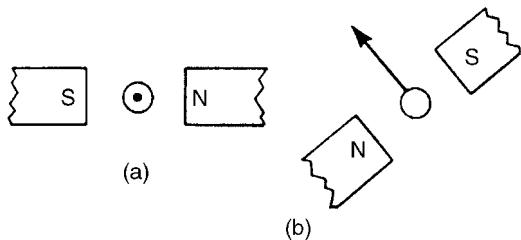

Figure 8.20
- 4 For the current-carrying conductor lying in the magnetic field shown in Fig. 8.20(b), the direction of the current in the conductor is: